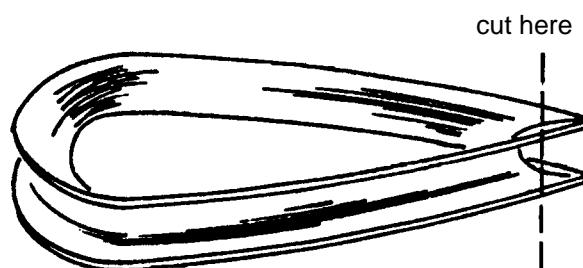

Figure 1 - Preparation of Thimble
- 5.2.4 If a loop terminal is to include a thimble, cut off the tips of the thimble as shown in Figure 1.